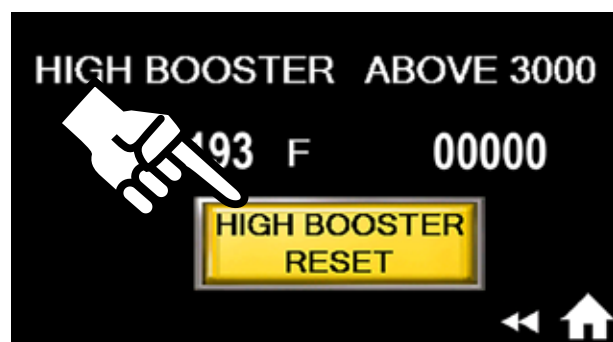

Fig. 94 - High booster menu
1. Press the High Booster button, (Fig. 94).